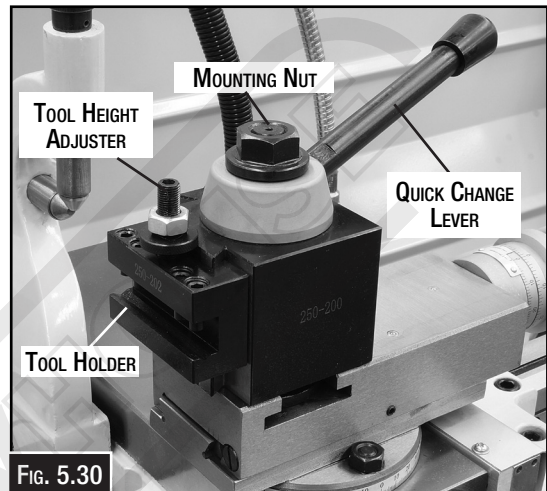

Fig. 5.30
2. Move the quick-change lever (Fig. 5.30) to recess the lock piston and provide an unobstructed slot for the tool holder to slide down into.